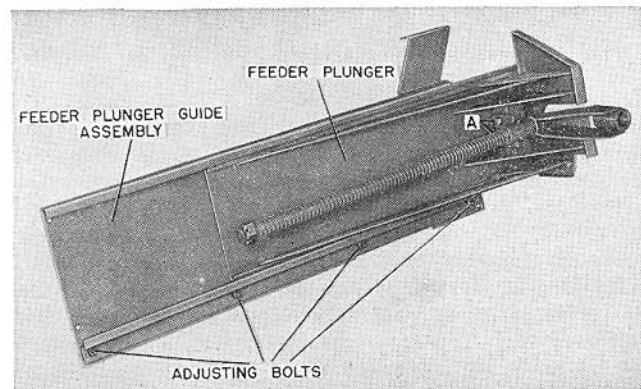

FIGURE 21
1. Loosen the mounting bolts of the feeder plunger connecting rod bearing (point A, Fig. 21).
3. Loosen the bolts of the lower slide track of the feeder plunger guide assembly (Fig. 21) and move the slide track upward until the feeder plunger has a vertical clearance of $1/32''$.